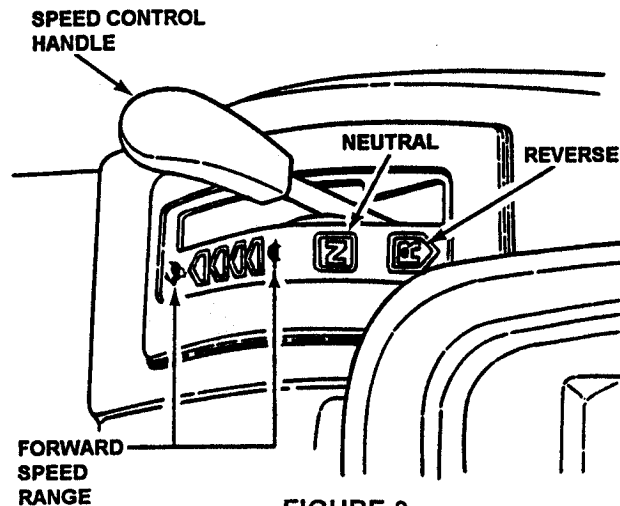

FIGURE 9
4. Slowly shift the Speed Control Lever forward for forward motion or to the rear for reverse motion. See Figure 9.